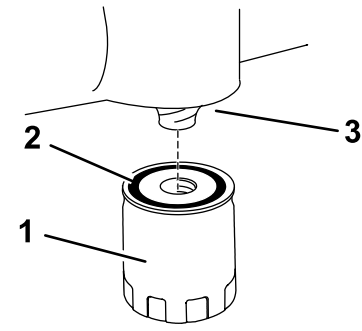

Figure 33
13. Install the replacement oil filter to the mounting pad. Turn the oil filter clockwise until the rubber gasket contacts the pad, then tighten the filter an additional 2/3 to 1 turn (Figure 33).